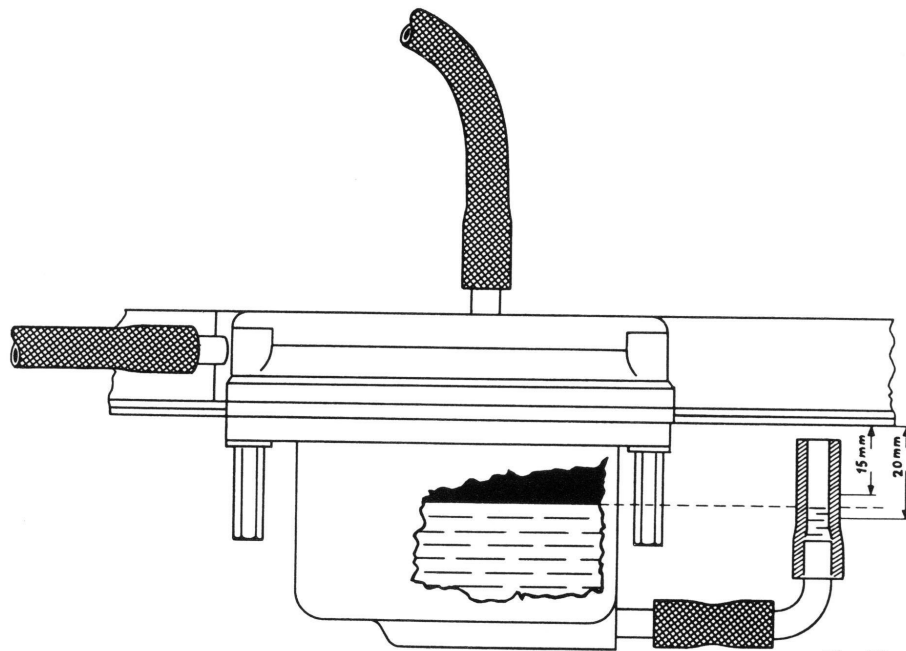

Fig. 18
5. The fuel level must be 15 - 20 mm below the milled underside of the intake duct (see Fig. 18). If the fuel level rises above the 15 mm line, it will be necessary to replace the float.